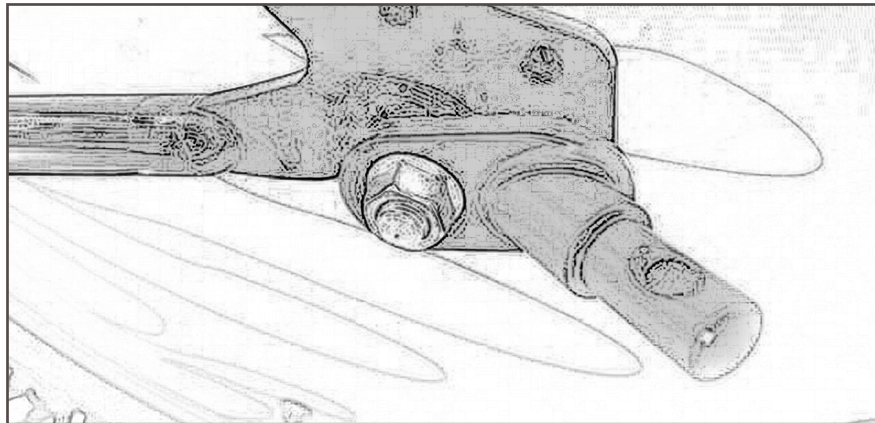

Figure 24
2. Position hitch over left rear axle of bicycle frame, replacing axle nut. Tighten securely, with hitch tab facing rear of bike, roughly parallel to the ground (Fig. 24).